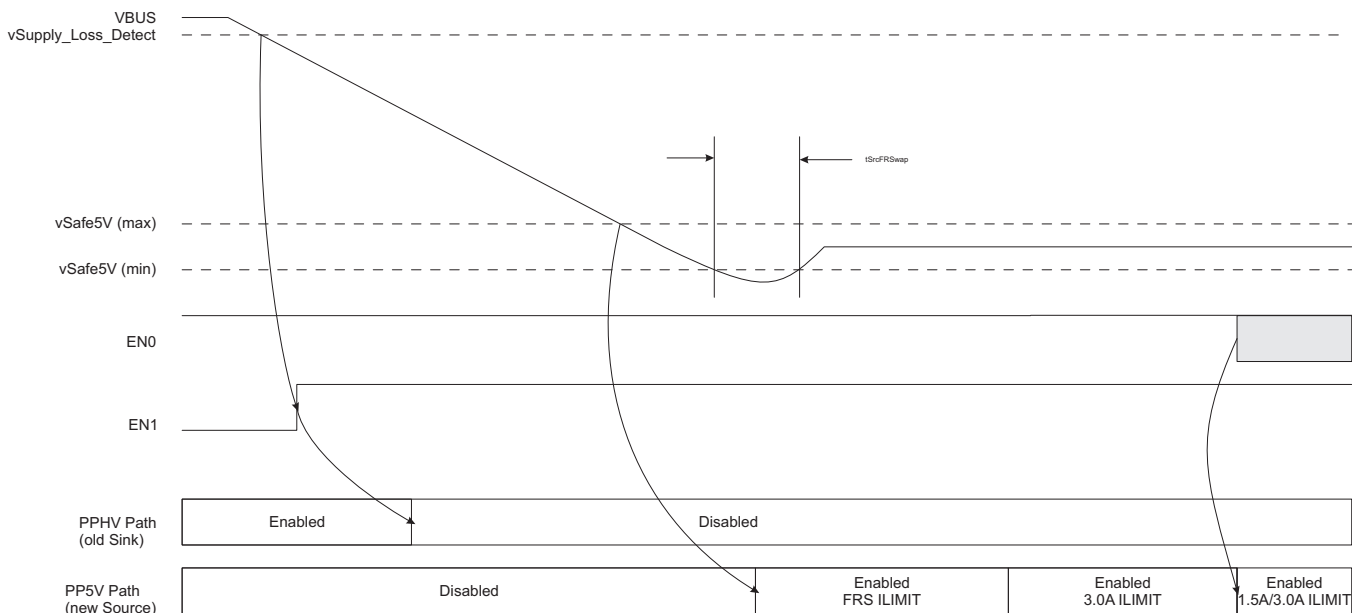
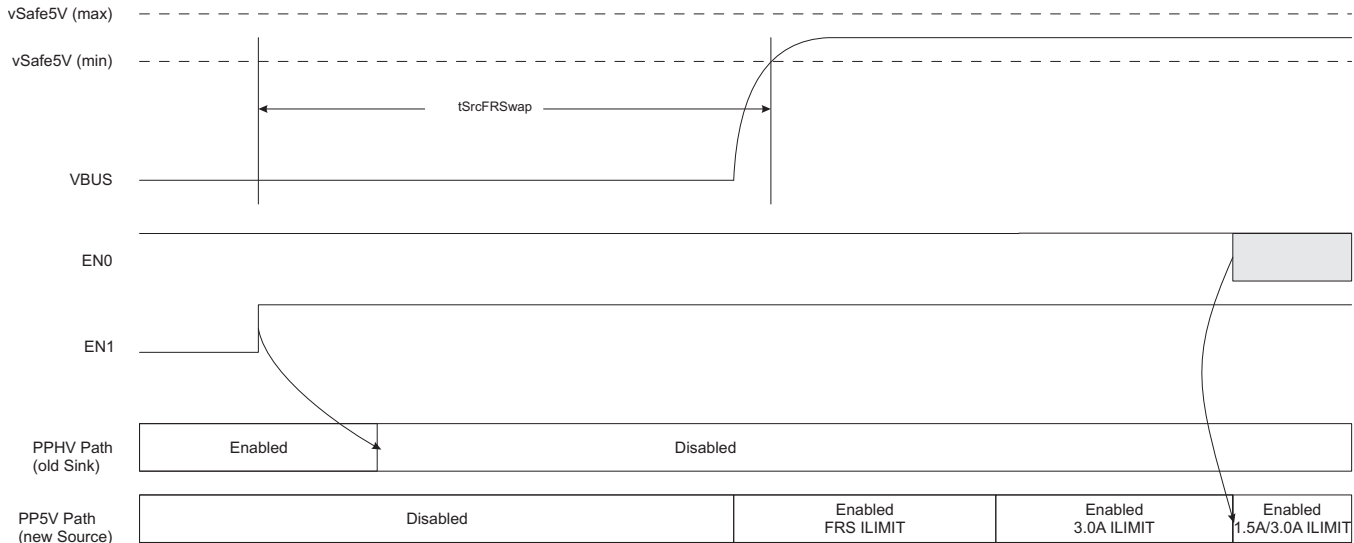

图 26. Fast Role Swap Events - Case 1
图 27. Fast Role Swap Events - Case 2
5. There are two cases to consider. In Case 1, as shown in 图 26, VBUS begins to decay, while being continuously monitored by the vSafe5V comparator circuitry that indicates when VBUS has fallen below vSafe5V. Once this occurs, the comparator output is asserted indicating to the fast role swap hardware that it is safe to turn on the PP5V path, and the PP5V path is enabled automatically. In Case 2, as shown in 图 27, VBUS may have fallen below vSafe5V, or even fully discharged to ground, so the comparator output may already be asserted low. If so, the PP5V path shall be immediately enabled. It should be noted in this scenario, since the VBUS capacitance has been fully discharged, a significant in-rush current will occur when the PP5V path is enabled. Application should ensure sufficient decoupling capacitance is applied on the PP5V supply or that the supply is designed to react to fast transient responses to avoid brown-out of the supply rail.